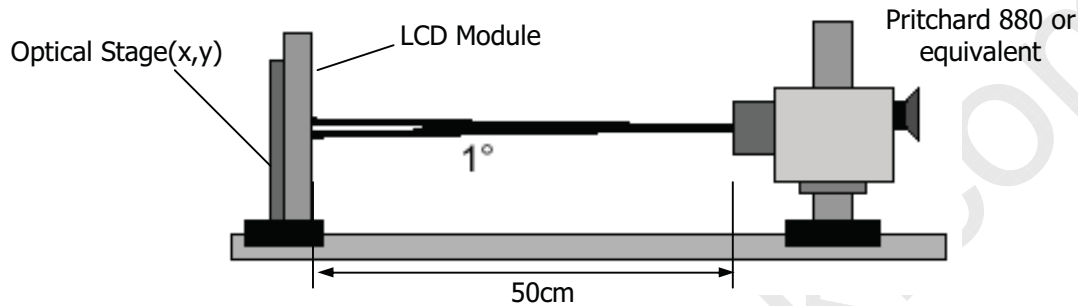

FIGURE. 6 Optical Characteristic Measurement Equipment and Method
FIG. 6 presents additional information concerning the measurement equipment and method.
2. **Surface luminance** is luminance value at No.1 point across the LCD surface 50cm from the surface with all pixels displaying white. For more information see FIG 6.